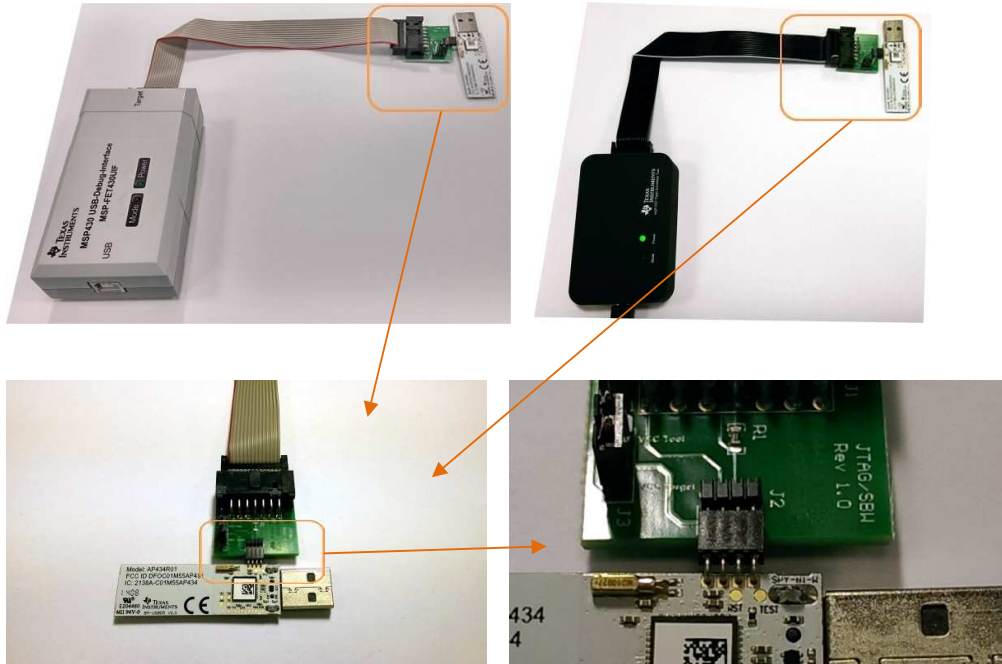

Figure 22. Connect FET Tool to AP434R01 Module
3. Connect the 4-pin connector to AP434R01 SBW pins from AP434R01 bottom layer (see Figure 22).